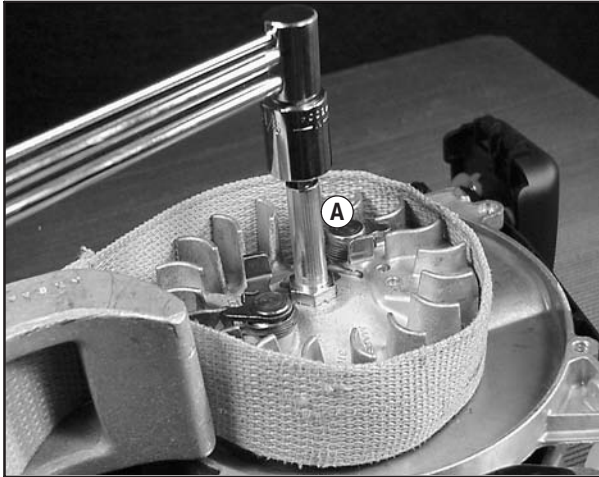

Fig. 3
5. Insert the driver from flywheel puller Tool #19538 into flywheel nut /crank adapter (A), Fig.3.